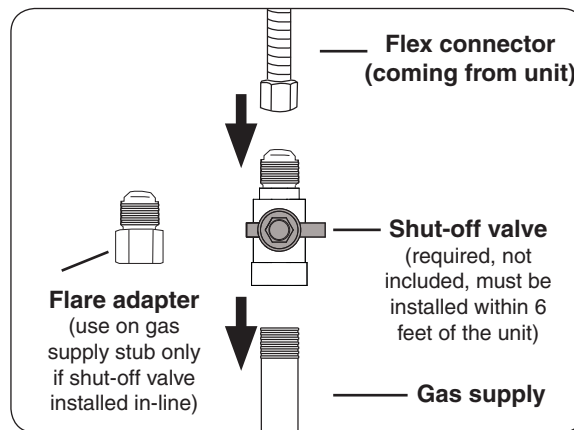

Fig. 20-1 Connecting to a gas line
- Connect the flex connector to the shut-off valve (see Fig. 20-1). Tighten securely.
- Install the supplied flare adapter to the gas supply using a pipe joint compound resistant to all gasses (see Fig. 20-1). Tighten securely.
- Connect the flex connector to the flare adapter (see Fig. 20-1). Tighten securely.